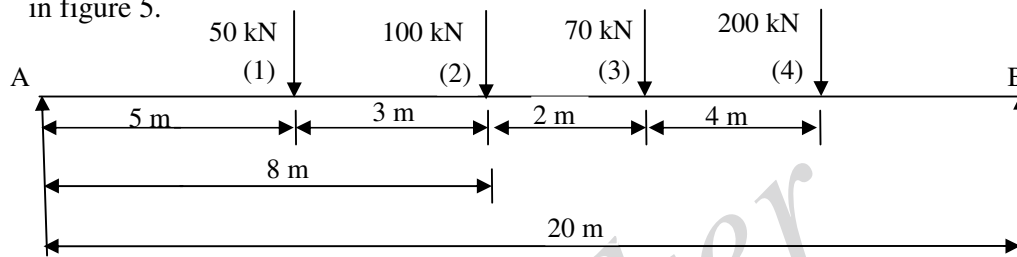

Figure 5
b) Determine the maximum shear at a point 8 m from the left support for a 20m span of a simple supported beam with the moving load (1-2-3-4), moving from right to left as shown in figure 5.